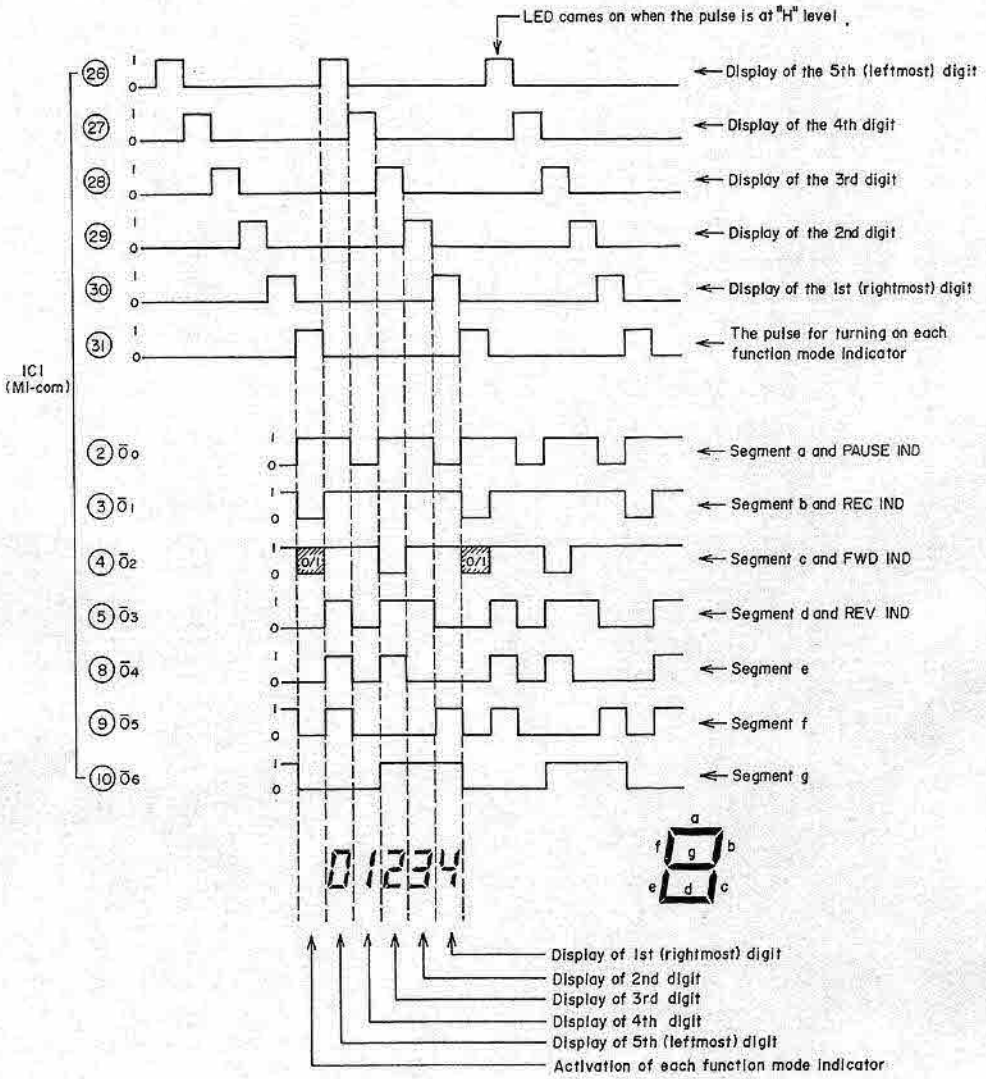

Fig. 23
Here we will explain about the situation in Fig. 23 (FWD PLAY/PAUSE) as one example. Hereinafter FWD PLAY is just written as PLAY. Under PLAY/PAUSE, PAUSE of the function mode indicator is always lit and PLAY is flashing. Firstly, refer to the vertical row of the function mode indicators of O0 - O3 in Fig. 23. You will note that PAUSE IND has "H" level, PLAY IND has "L/H" flashing and others have "L" level.
Fig. 23 shows the timing chart. By means of the waveforms of IC (26) - (30) coming from the microcomputer, the lighting position of LED of each digit is moved in sequence. Take the example of the first digit.
tion of  $\bar{O}_0 - \bar{O}_6$  of the first digit indication in Fig. 23, b, c, f, and g segments are lit and a, d and e segments are dark. In this condition, the indicator indicates 4. Similarly if we look at the 2nd - 5th digits, 01234 is indicated in the condition of Fig. 23.